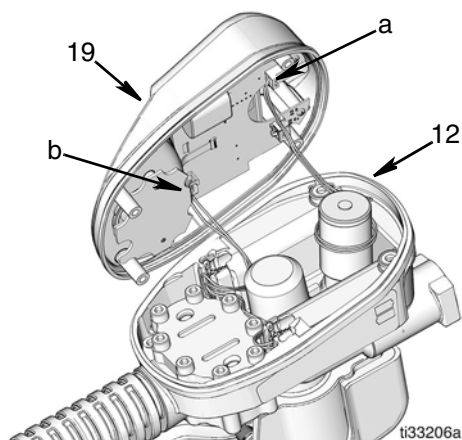

FIG. 5
NOTE: The solenoid (Pulse and SDP Models only) and power will still be connected to the bezel via the power connections as shown in FIG. 5. Before the bezel can be completely separated from the housing, these connections must be detached.
4. Detach the red and white solenoid connection (a) (FIG. 5). Pulse and SDP Models only.
5. Detach the black and red power connection (b) (FIG. 5).
1. Connect the black and red power wires (b) (FIG. 5).
2. Connect red and white solenoid wires (a) (FIG. 5). Pulse and SDP Models only.